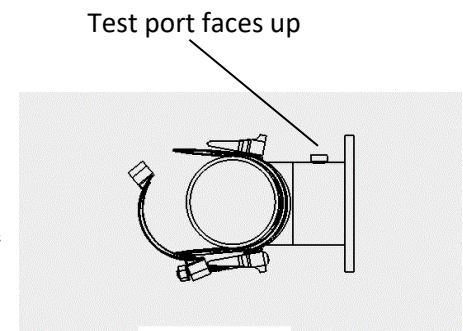
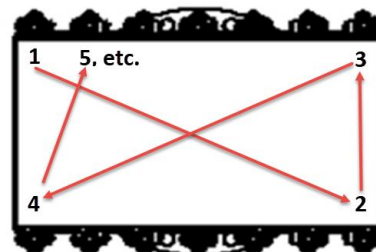

Fig. 1
Fig 3. Tapping Sleeve Bolt Tightening Sequences/Patterns
Step 3. Per Figure 1, the lower shell on the 4", 6", and 8" sizes may be hinged away for assembly to the main pipe. Units larger than 8" require disassembly prior to installation, and cannot be hinged. The sleeve may be assembled to the pipe in the vertical position, then tuck the upper gasket edges beneath the lower shell, install bolts, and hand tighten. **Make sure that the upper gasket end tapers are laying flat against the main pipe.** Bolt heads may be oriented in either direction. Hand tighten all nuts and washers uniformly, then move sleeve to final (i.e. horizontal) position before beginning torque take-up. Sleeve must be assembled and installed in final position prior to tightening bolts to final torque. Note: Test port must be oriented in upright position to vent properly during pressure test. Tighten bolts, in a staggered pattern, per tightening patterns shown below in Fig. 3 to final torque, in two stages. First tighten to approximately 50% of final torque, then, tighten to 100% of final torque. Do not rotate assembled sleeve on conductor pipe after assembly. **After 15 minutes recheck bolt torque and continue with tapping process. Take care to insure that spanner shell gaps are even on both sides of the sleeve or else the sleeve will not seal properly.**